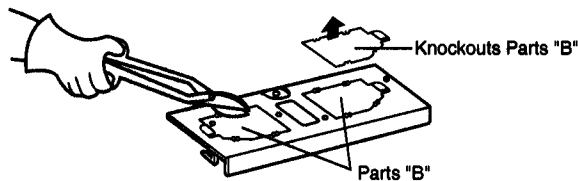

Figure 13
3. Use side cutters or tin snips to cut and remove knockouts parts "B" from Blower plate. See Figure 13.